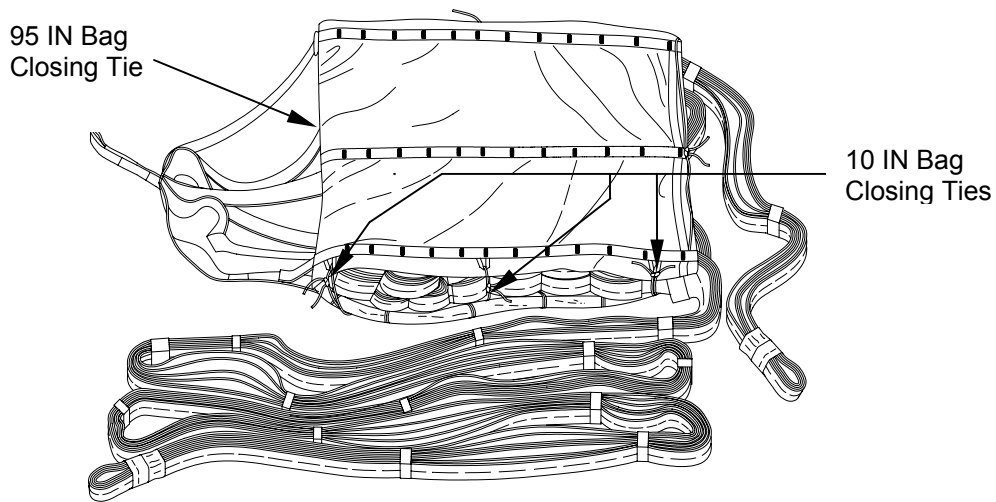

Figure 11. Extraction Line Bag Closed.
- f. Secure top and bottom closing loops together on left and right sides with six 10-inch bag closing ties. Secure ties with surgeon's knot and locking knot (figure 11).